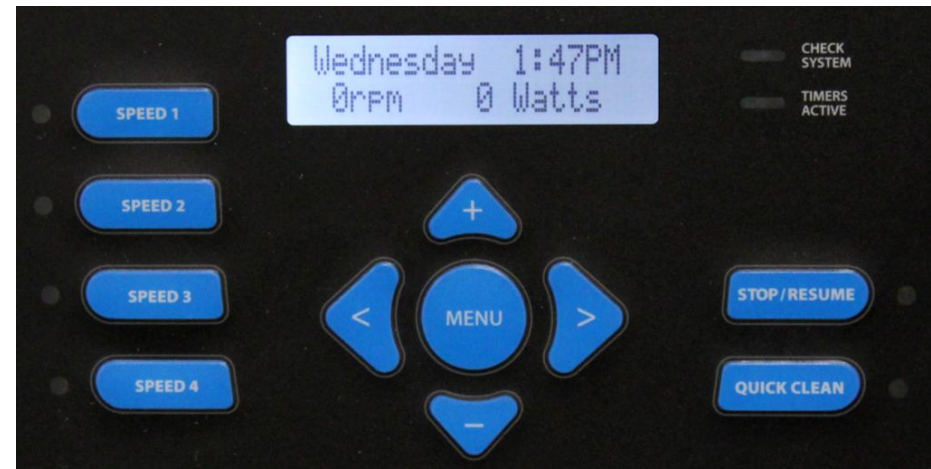

Fig 31
1. When power is supplied to the pump, the pump model will display, then the following screens (fig 31 & 32). Timer 1 will have default setting of 1750 RPM (50%), 7 days a week from 12:00 am – 11:45 pm.